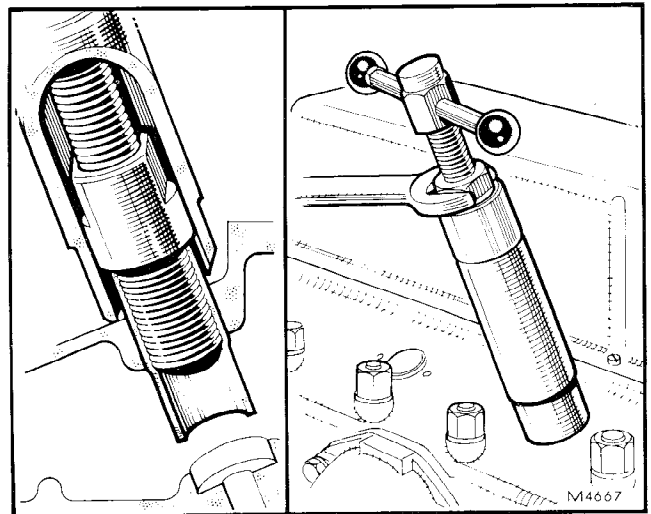

Fig. 2
5. Using tool 18G 213 D (refer to Fig. 2) extract the injector sleeve from the cylinder head and remove the sealing plug for future use.